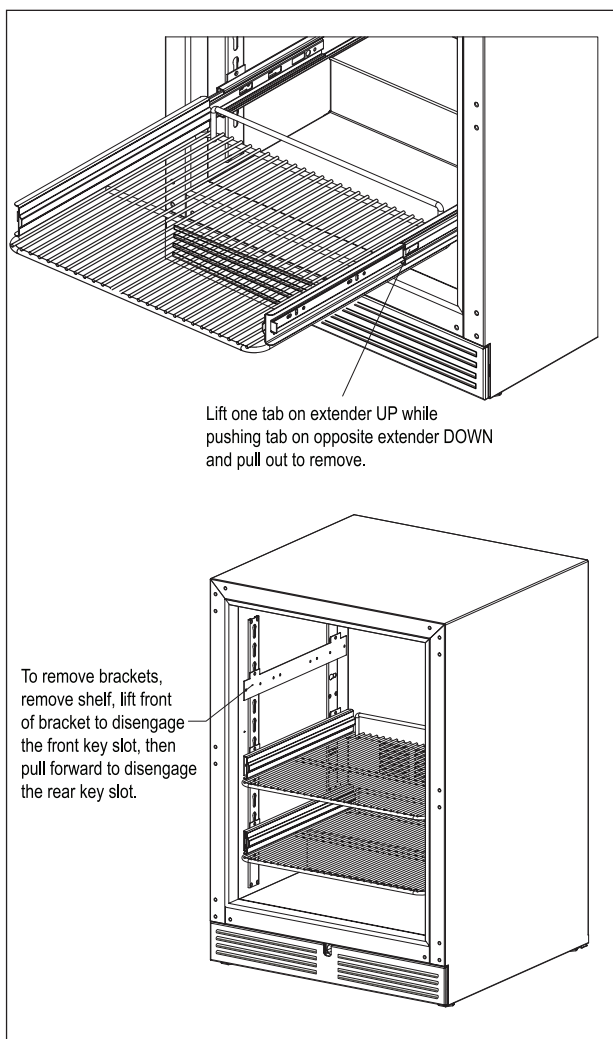

Figure 6. Shelving/Drawer Adjustment
1. Pull the shelf/drawer out to its furthest position. Locate the tabs in the middle of both extenders. Lift one tab up while pushing the opposite tab down, and pull shelf/drawer out (Figure 6).